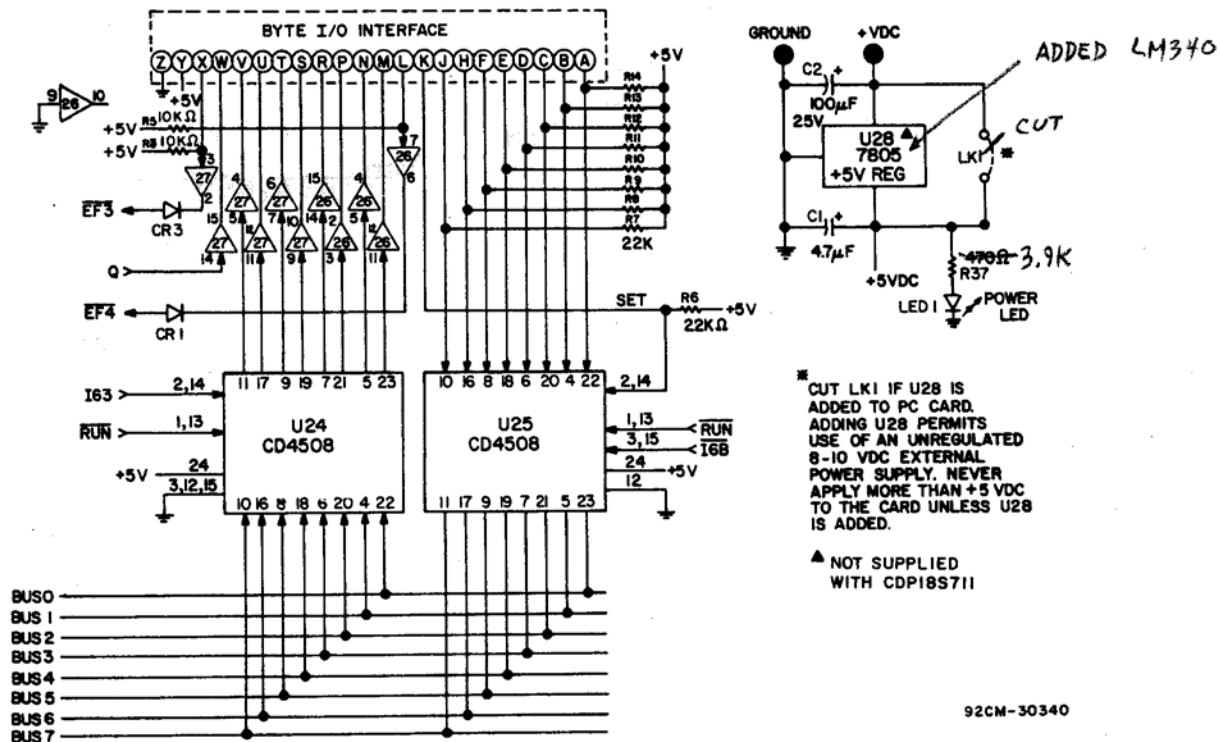

Fig. E-5 - Power Supply Circuit and Byte Input/Output Interface
- Fig. E-5 Power Supply Circuit and Byte